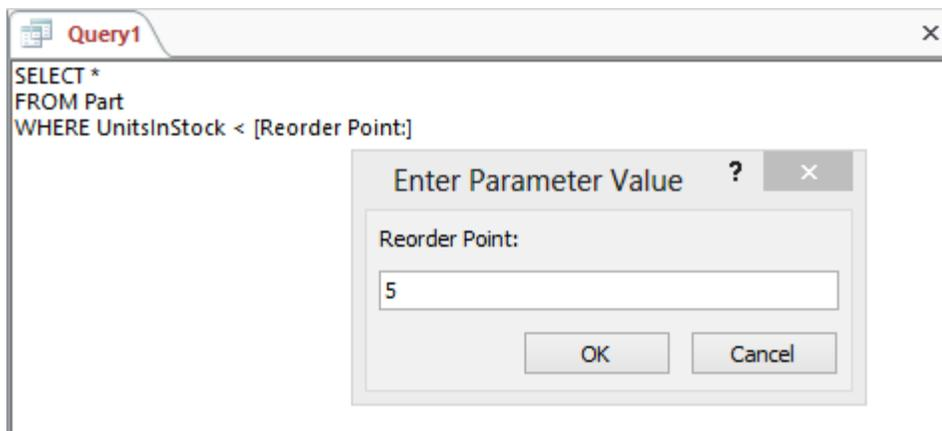

Figure 36: Parameter Value Dialog
2. Execute the Query: When you execute the query, the dialog box in Figure 36 appears. Type in a number (5 is typed in Figure 36) and click **OK**. The datasheet displays the result as shown in Figure 37.